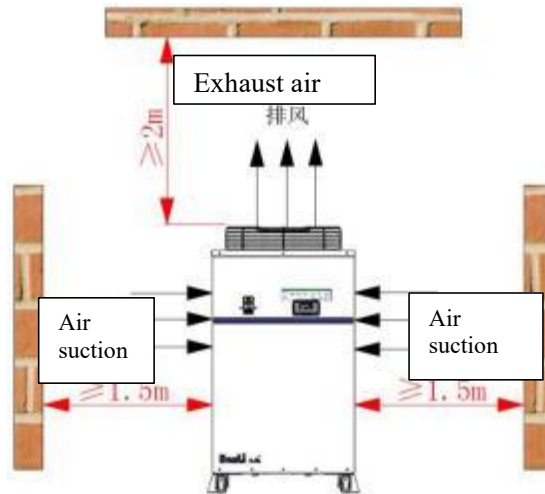

FIG. 4 Equipment installation space requirements
- No shielding shall be allowed in the air inlet within the range of 1.5m and the air outlet within the range of 2.0m, so as not to affect the heat dissipation of the equipment, as shown in Figure 4.